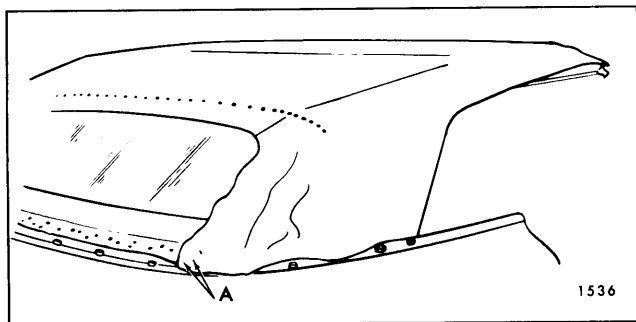

Fig. 13-37—Tacking Top Material
18. Using previously marked lines (ends of trim stick) as locating reference, tack top material to rear and rear quarter trim sticks. "A" in Figure 13-37 shows top material installed to rear trim stick at inboard edge.